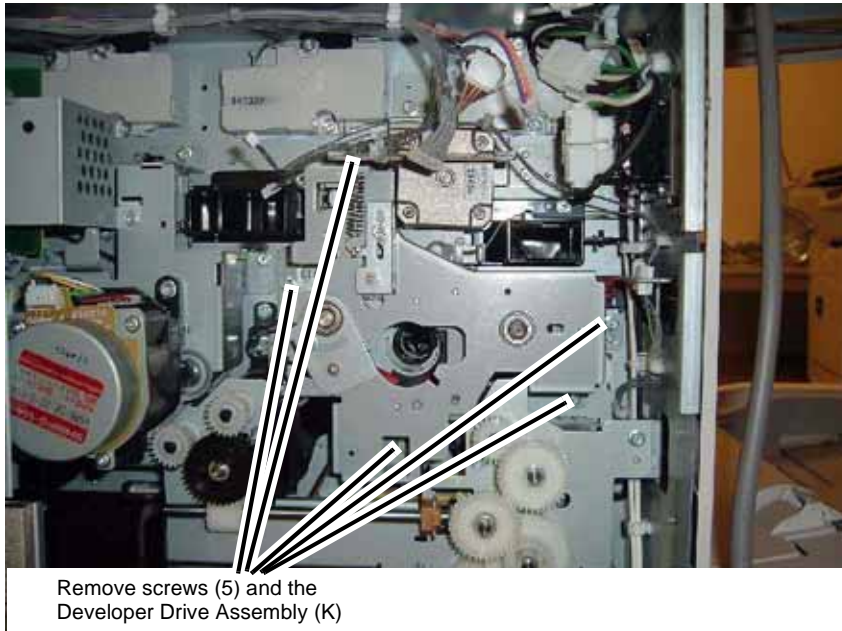

Figure 7 Removing the Developer Drive Assembly (K)
9. Remove the Developer Drive Assembly (K) (Figure 7).